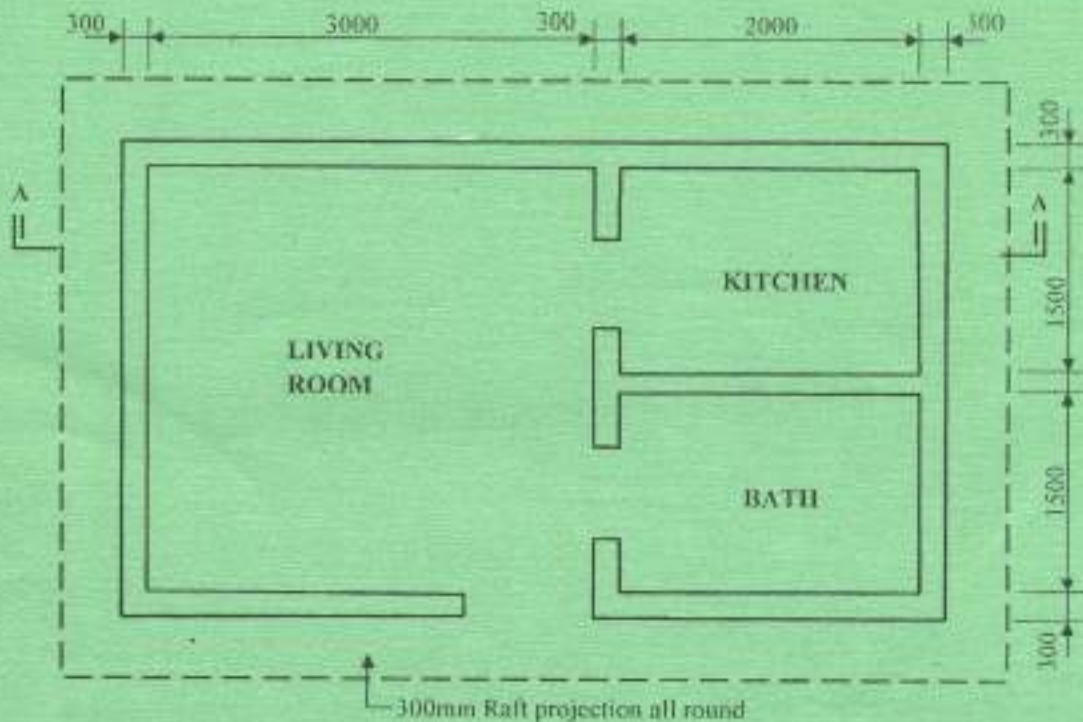

Fig. 4
- (b) **Figure 4** shows a plan of a guest wing built on a made up ground.